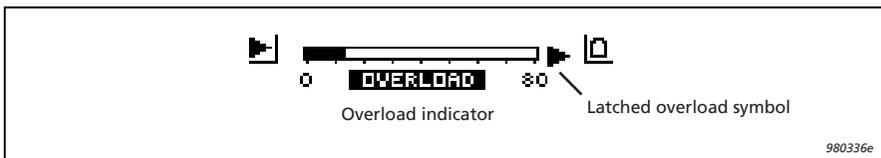

Fig.2.5 Overload indicators
- b. *The upper end of the measurement range (in dB) and overload indicator:* Peaks above this level will trigger an “OVERLOAD” indication that will appear under the bar graph, see Fig. 2.5. If an overload has occurred in the last one second, this indication will stay for the next second. This indication will appear both in pause mode and in measurement mode. If an overload occurs during a measurement in progress, a “latched overload” symbol will appear to the right of the bar graph, see Fig. 2.5. The latched overload remains until the measurement is reset, also if the measurement is paused. To change the measurement range, press .